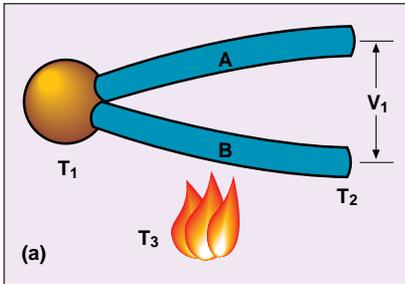

Figure 1a
**Thermocouples:** Consider first the thermocouple, probably the most-often-used and least-understood of the three. Essentially, a thermocouple consists of two alloys joined together at one end and open at the other. The emf at the output end (the open end;  $V_1$  in *Figure 1a*) is a function of the temperature  $T_1$  at the closed end. As the temperature rises, the emf goes up.
The open-end emf is a function of not only the closed-end temperature (i.e., the temperature at the point of measurement) but also the temperature at the open end ( $T_2$  in *Figure 1a*). Only by holding  $T_2$  at a standard temperature can the measured emf be considered a direct function of the change in  $T_1$ . The industrially accepted standard for  $T_2$  is 0°C; therefore, most tables and charts make the assumption that  $T_2$  is at that level. In industrial instrumentation, the difference between the actual temperature at  $T_2$  and 0°C is usually corrected for electronically, within the instrumentation. This emf adjustment is referred to as the cold-junction, or CJ, correction.
Temperature changes in the wiring between the input and output ends do not affect the output voltage, provided that the wiring is of thermocouple alloy or a thermoelectric equivalent (*Figure 1a*). For example, if a thermocouple is measuring temperature in a furnace and the instrument that shows the reading is some distance away, the wiring between the two could pass near another furnace and not be affected by its temperature, unless it becomes hot enough to melt the wire or permanently change its electrothermal behavior.